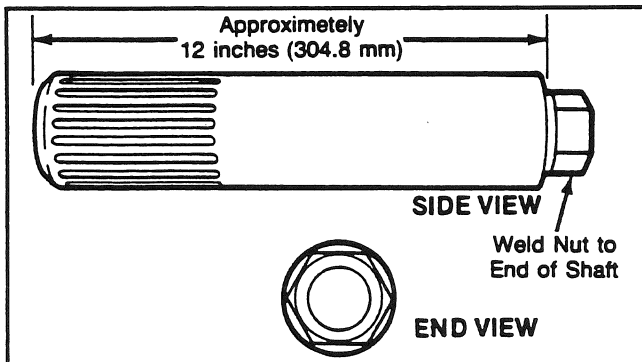

Fig. 59
1. Make a tool for checking the differential side gear rotating resistance. You can make the tool from an axle shaft with splines that match the splines of the differential side gears (see Fig. 59).